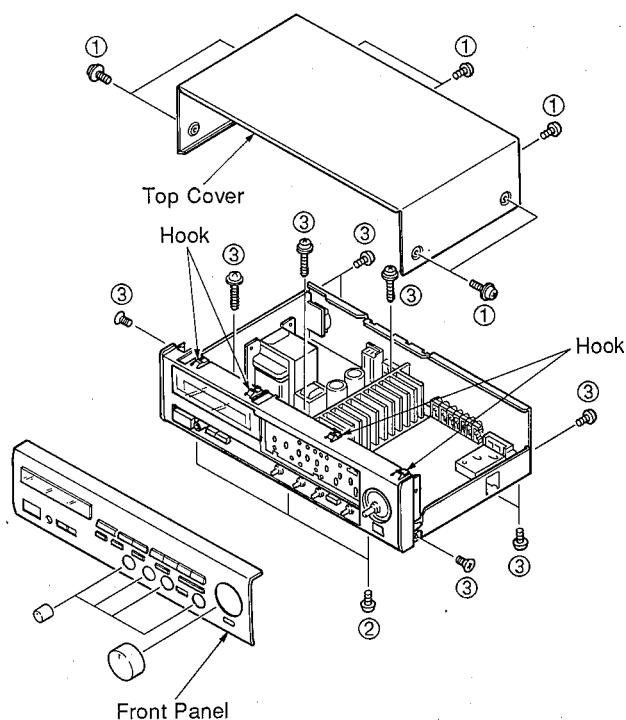

Fig. 1
Remove 7 screws (①) in Fig. 1 and slide the Top Cover back and up.
- Remove 3 screws (②) and 4 hooks in Fig. 1, and pull the Front Panel forward.
- Remove 13 screws (③) in Fig. 1.